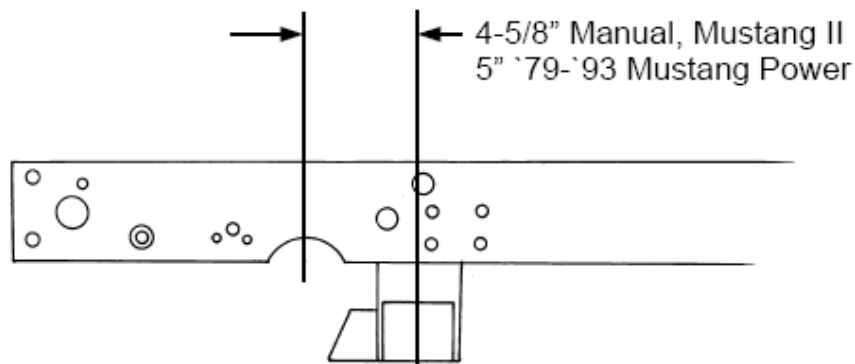

Figure 6- C-Notch
8. The C-notch for the rack is the last part to be done. Measure forward from the centerline 4- 5/8" for manual rack and '78-'78 Mustang II power rack, or 5" for '79-'93 Mustang power rack, and make a mark. See **Figure 6 (next page)**. Use the C-notch pieces to scribe a radius to cut. Trim out the material marked, leaving about 1/8" to work with, fitting the C-notch pieces and rack in place as you go. You will also need to trim a portion of the rear stock crossmember for rack clearance. When the rack fits in place, remove the rack and weld the C-notch pieces in place, then grind smooth.